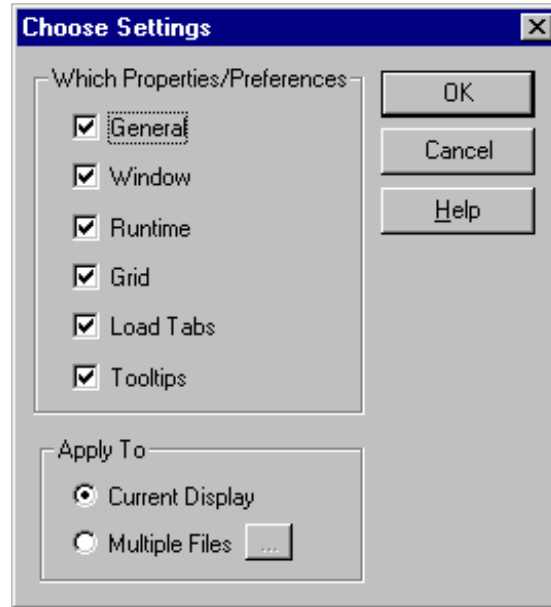

Figure 4-11: Choose Settings Dialog Box
1. On the Format menu, select Apply Preferences to Properties. The Choose Settings dialog box appears (Figure 4-11).
1. On the Format menu, select Save Properties as Preferences. The Choose Settings dialog box appears (Figure 4-11).